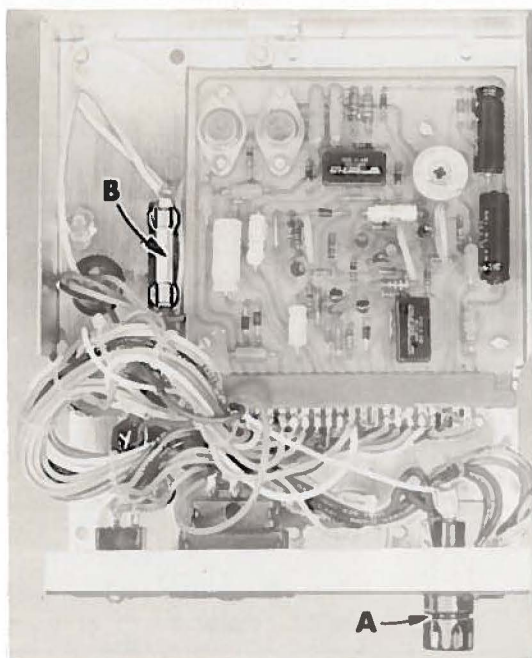
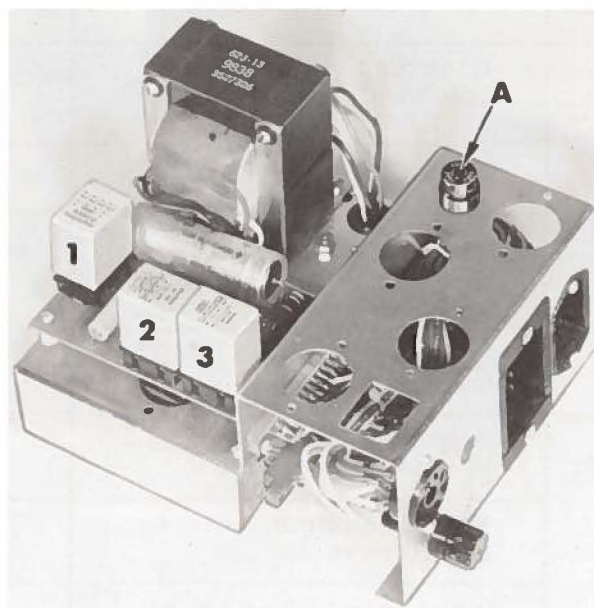

Fig. 38
Fig. 39
The power pack incorporates a safety feature consisting of three (3) fuses of which two are of the slow blowing type and are rated 1 1/4 AMP at 250 V and the third a straight blow fuse rated 5 AMP at 250 V. The 1 1/4 AMP fuse (A, Fig. 38) located in the front panel fuses the auxiliary motor as well as the positioner circuit components. The 1 1/4 AMP fuse (A, Fig. 39) located on top of the chassis fuses the AC input for the primary winding of the transformer. The 5 AMP fuse (B, Fig. 38) located under the chassis, fuses the output side of the rectifier for the thread wiper solenoid (30 VDC) cutter solenoid and the relay coil control circuit (24 VDC).
Bad relays	Check relays (Nos. 1, 2, 3, Fig. 39) with tester